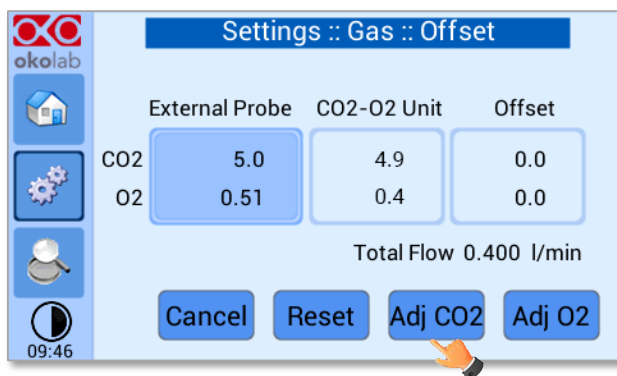

Figure 34. Offset Calibration - Correction.
Note ► The Touch Screen will go back to the previous screen. It will display on the left (*External Probe* tab) the CO2 and O2 levels read by the external Gas meter, as just input. The value in CO2-O2 Unit tab is the value read by CO2-O2-UNITL-BL [0-10; 0-1] (see Figure 34).
3. Press *Adj CO2* (see Figure 34) and/or *Adj O2* to make a calibration using the input value from the external gas meter as a reference.